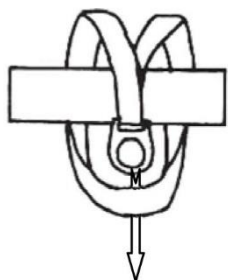

Fig.2
- ◆ Ensure the webbing lies flat, has no twists and is in continuous contact with the structural member and does not wrap back onto itself. Pull the sling end back through the loop at the opposite end to create a hitch (Fig. 2).